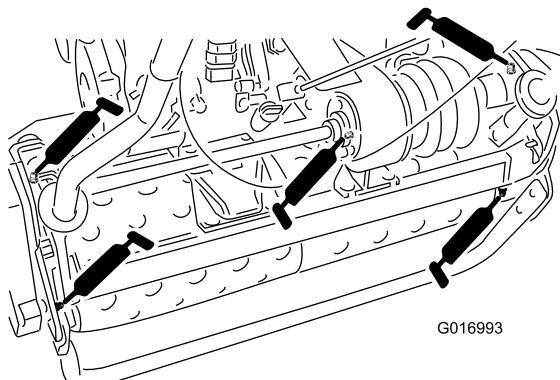

Figure 22
- 2 on the drum axles (Figure 22)
- 3 on the differential (Figure 22)